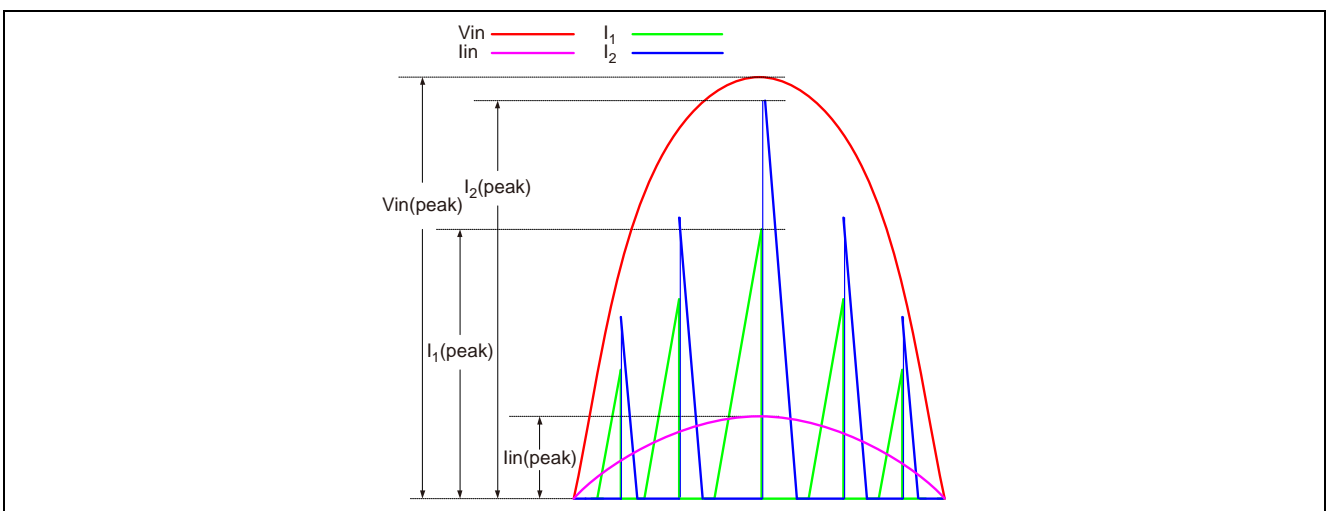

Figure 8.3 Relationship between Transformer Current, Input Current, and Input Voltage
This evaluation board operates in constant current (CC) mode. The board controls the output current I_{out} to be constant. I_{out} and the COMP pin voltage are constant, so current I_1 , which flows into the primary side of transformer T1, is proportional to input voltage V_{in} . The input current I_{in} is generated by smoothing I_1 , so I_{in} is also proportional to V_{in} . This leads to the good power factor and THD (total harmonic distortion) characteristics (refer to Figure 8.3).